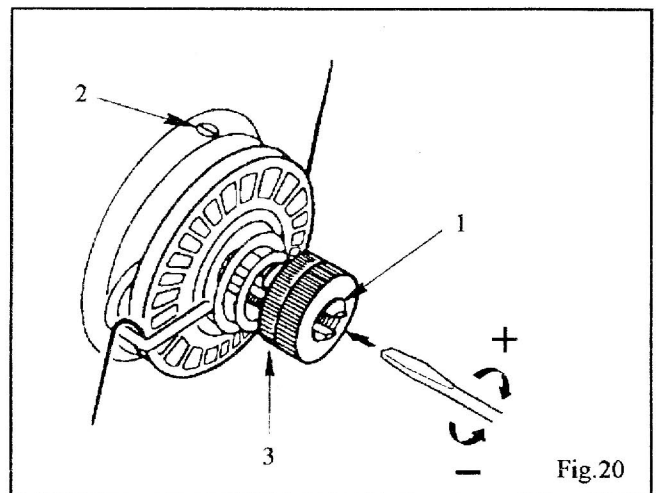

Fig. 20
To adjust the amount of take-up spring movement, loosen screw (2), Fig. 20, and set take-up spring height by turning the entire tension assembly (3) toward left or right, as required. Securely tighten screw (2).